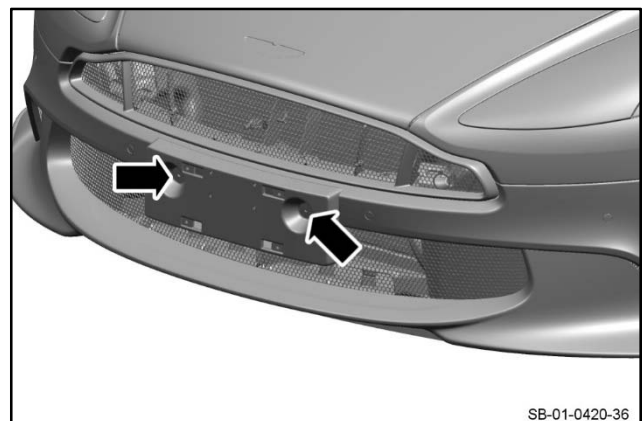

Figure 33
2. With the front license plate in position, make two marks on the front bumper. These will show where to drill the two holes for the screws that will hold the front license plate plinth (refer to Figure 33).